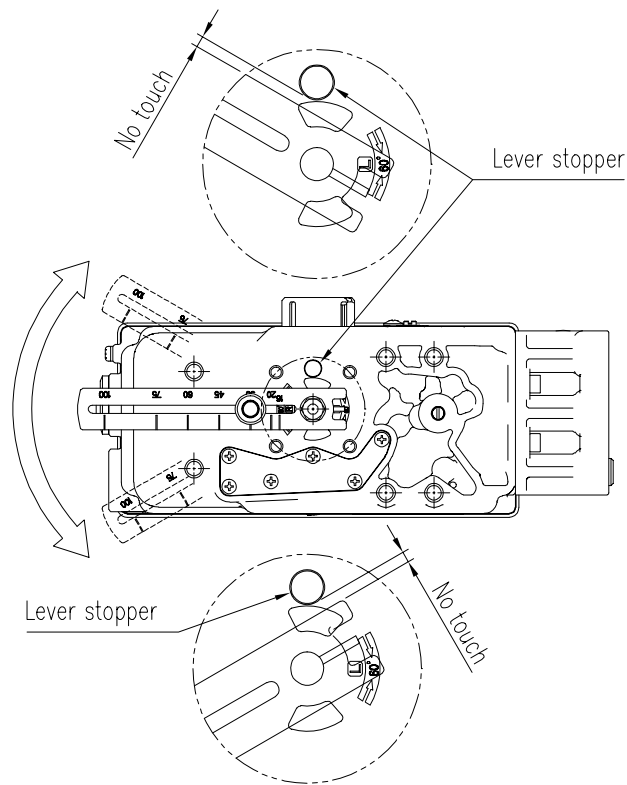

Fig. 3-15: YT-3300L / 3350L Feedback lever should not touch lever stopper on 0% ~ 100% valve stroke.
- 8) After installing the positioner, operate the valve from 0% to 100% stroke by using direct air to the actuator. On both 0% and 100%, the feedback lever should not touch the lever stopper, which is located on the backside of the positioner. If the feedback lever touches the stopper, the adapter holder should be moved or the adapter of feedback lever should be moved further away from the main shaft of the positioner. Refer to Fig 3-15.